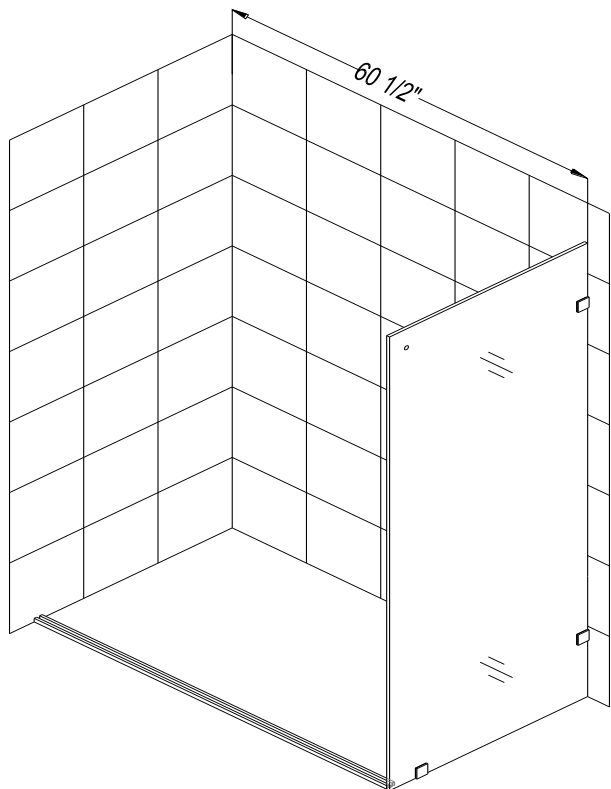

Fig. 8
d) Set the **Return glass panel** against the installed wall mounting parts of the bracket from outside and secure it to the fastening bracket parts with bolts and gaskets provided. See fig. 8 for details.